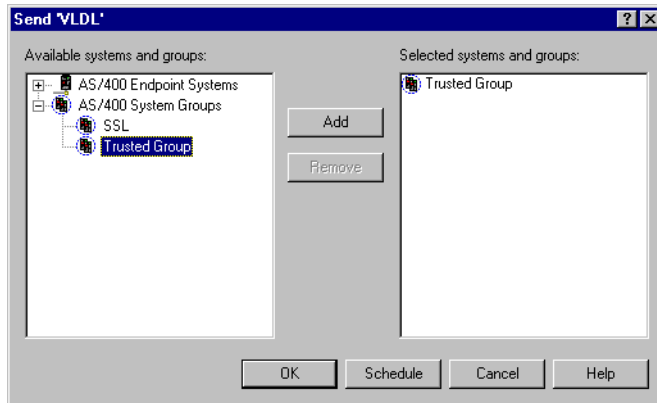

Figure 177. Select system groups for package distribution
7. Right-click the new package (Validation List) and select **Send**. In the next window (Figure 177 on page 208), select the trusted group and click **OK**.